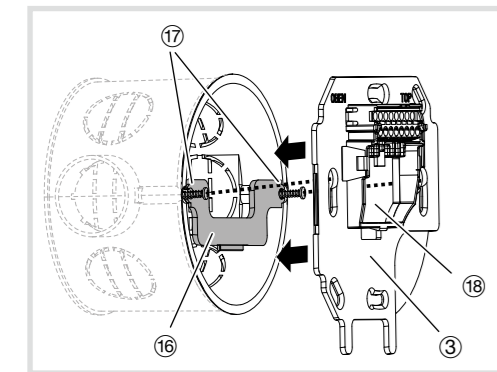

Figure 6: Installation on a wall box
- Separate supporting element ⑩ on the pre-determined breaking point from the supporting plate.
- For installation on a wall box (Figure 6):
- Mount the supporting element ⑩ onto wall box so that the smooth surface is pointing straight ahead and the outer cable tie mounts ⑰ are lying on the screw domes of the wall box.